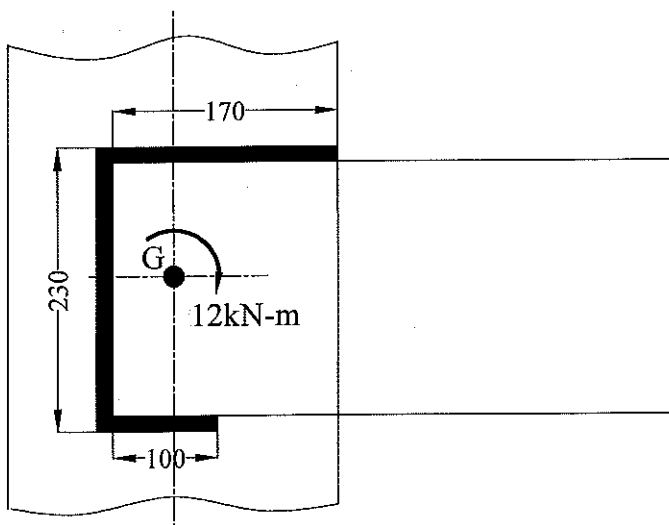

Fig. 4
b) A welded connection as shown in Fig. 4, is subjected to a torsional moment of 12 kN-m about the centre of gravity of welds. If the permissible shear stress in weld deposit is  $35 \text{ N/mm}^2$ , calculate the throat and leg dimensions of weld. 12